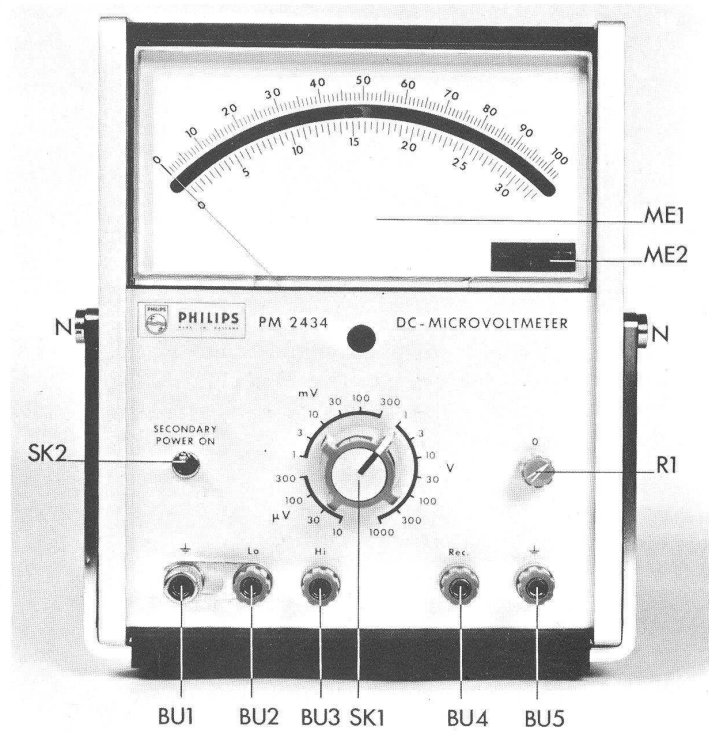

Fig. 4.
- Loosen the screws N, Fig. 4 of the carrying handle.
- Connect the instrument to the mains voltage and set SK2, Fig. 4, to the position SECONDARY POWER ON